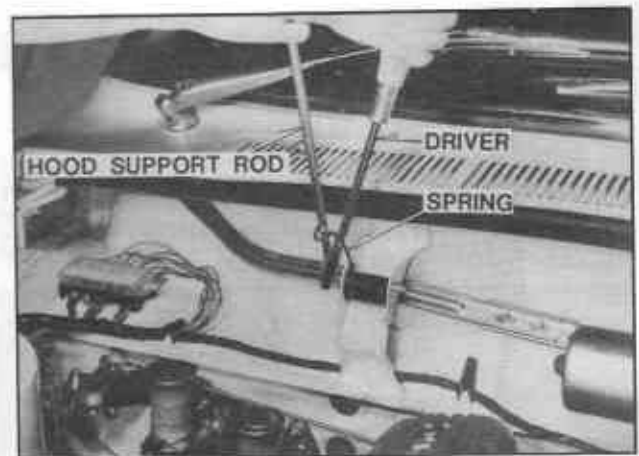

Fig. BF-6 Removing the hood support rod
4. Using screw driver as shown in Figure BF-6, remove the hood support rod from the support bracket.